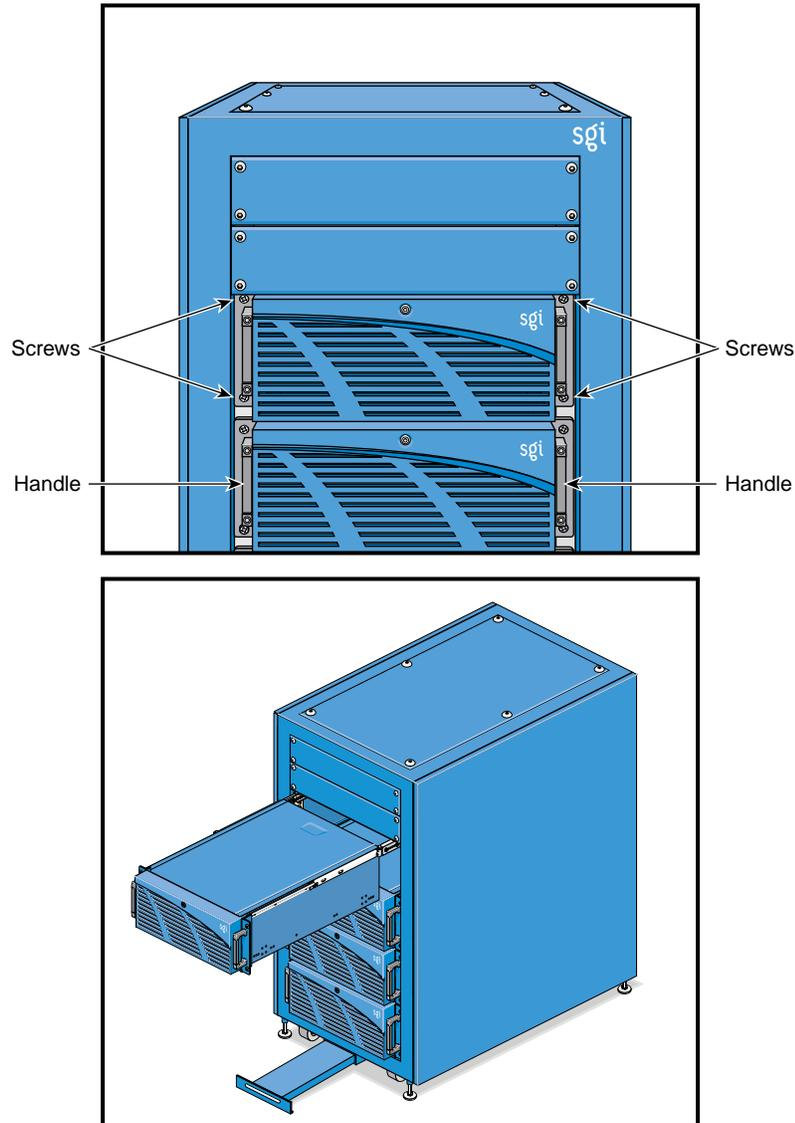

Figure 6 Freeing a Node from a Rack
9. Remove the four screws that secure the node to the rack chassis. These screws are above and below each handle; refer to Figure 6. Retain the screws.